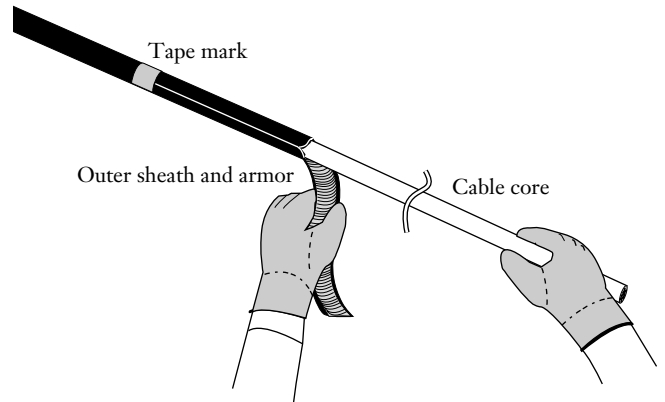

Figure 9
**5.13** Starting at the end of the cable, pull (“banana peel”) the outer sheath and armor back over and away from the cable end, back to the Position 1 ring cut (Figure 9).